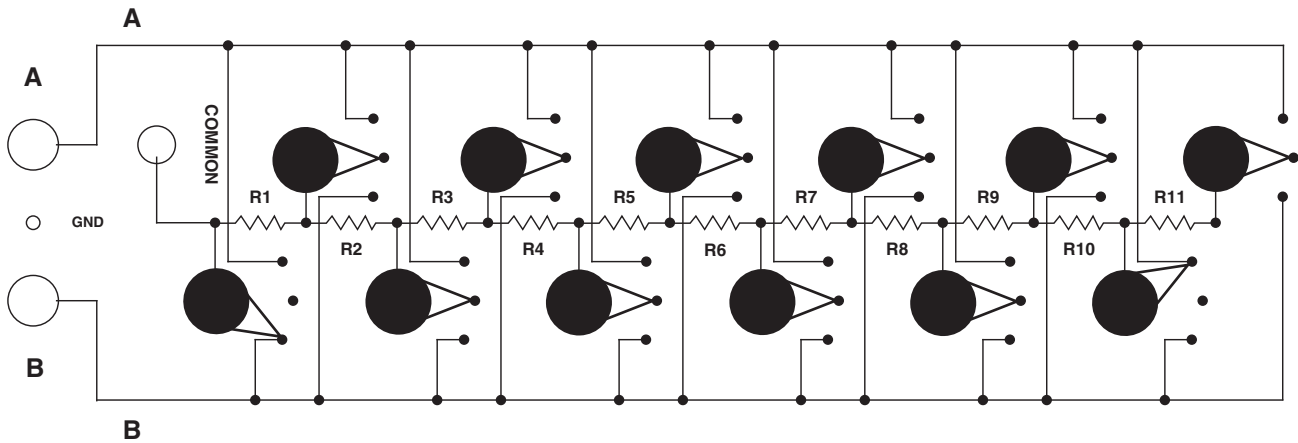

Figure 4-6: Resistance = $10R$: ten resistors in series
- For a composite value of $10R$, see Figure 4-6.
Figures 4-6 and 4-7 illustrate switch positions for ten times and one-tenth times the nominal value of the transfer standard, in each case using the same ten